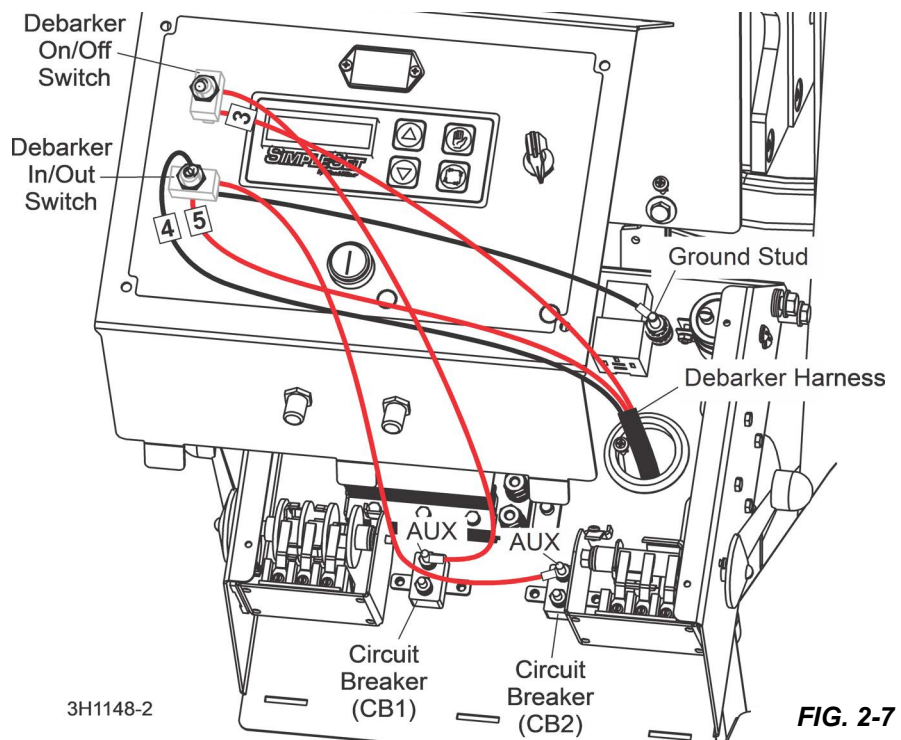

FIG. 2-7
4. See **Fig. 2-7**. Connect the red wire from the AUX post of the circuit breaker CB1 to the top terminal on the debarker on/off switch.